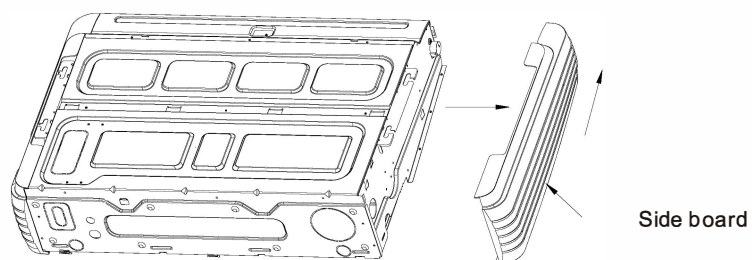

Fig 4.8
- ① Remove the side board. (Refer to Fig 4.8)